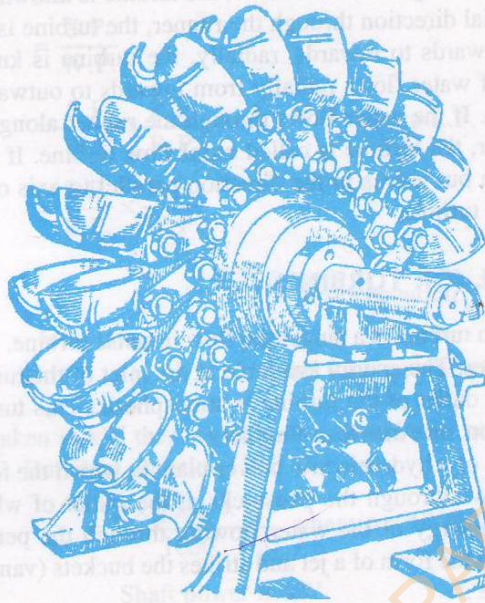

Fig. 18.3 Runner of a pelton wheel.
2. Runner with Buckets. Fig. 18.3 shows the runner of a Pelton wheel. It consists of a circular disc on the periphery of which a number of buckets evenly spaced are fixed. The shape of the buckets is of a double hemispherical cup or bowl. Each bucket is divided into two symmetrical parts by a dividing wall which is known as splitter.